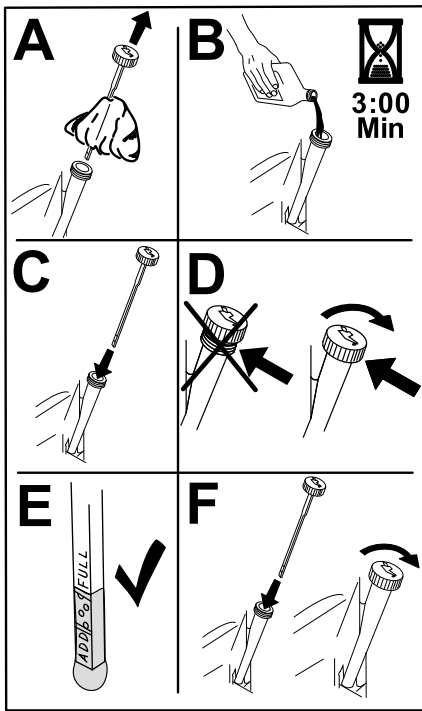

Figure 33
5. Slowly pour approximately 80% of the specified oil into the filler tube and slowly add the additional oil to bring it to the Full mark (Figure 33).
3. Fill the crankcase with the proper type of new oil (Figure 33).